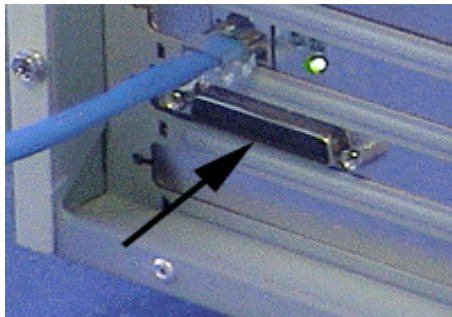

Figure 2-1
2. Locate an active parallel port (see *Figure 2-1*) on the rear of your computer. Usually this is LPT1, but it could be LPT2 if you have two parallel ports.